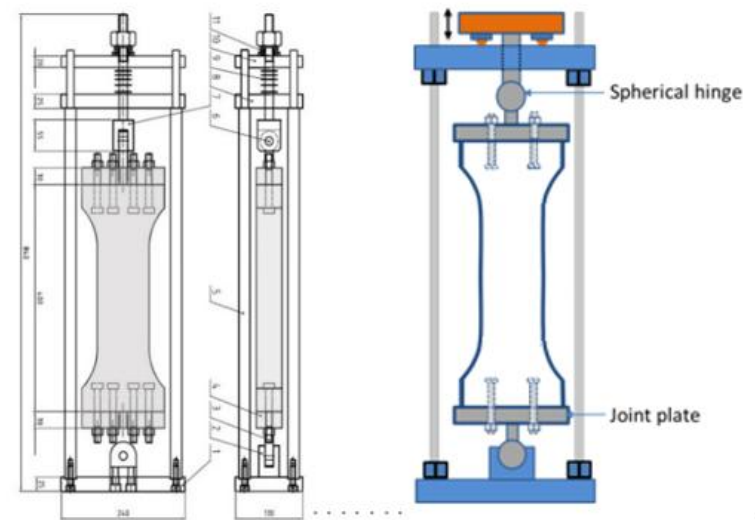

Fig. 1 Test rig for tension
- The test rigs designed by RILEM TC 246-TDC as shown in Fig. 1.